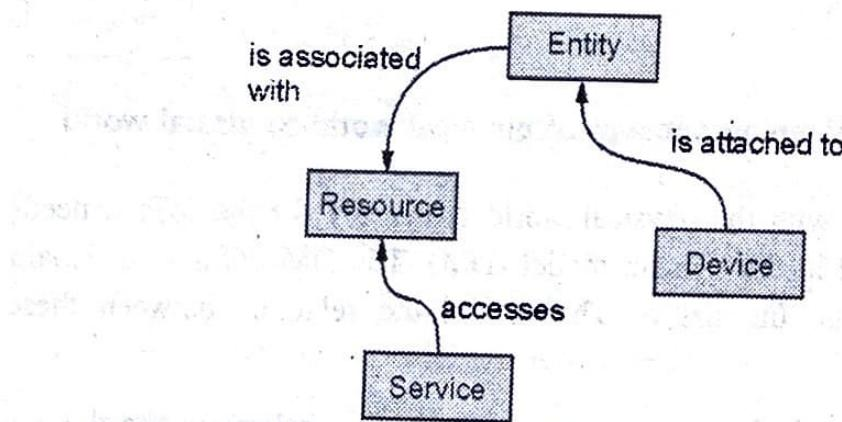

Fig. Q.20.3 Key concepts and interaction in IoT model
- The relations between services and entities are modeled as associations. These associations could be static, e.g. in case the device is embedded into the entity; they could also be dynamic, e.g., if a device from the environment is monitoring a mobile entity. These identified concepts of the IoT domain and the relations between them are depicted in Fig Q.20.3.